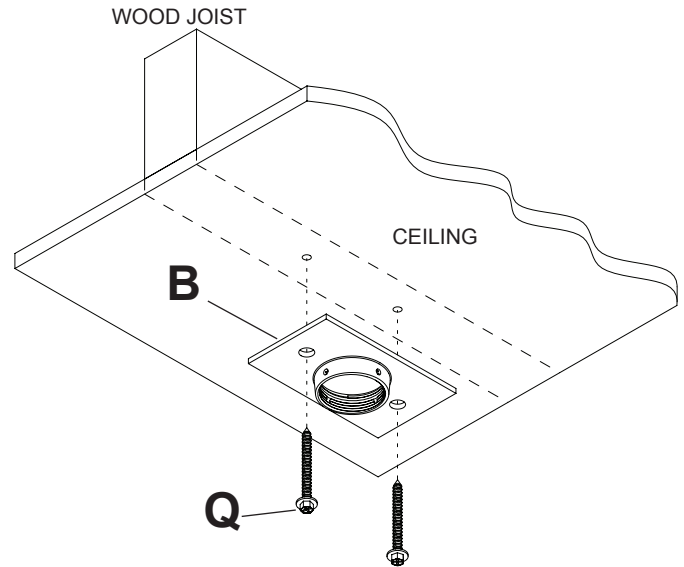

fig. 1.1
**1** Drill two 5/32" (4 mm) dia. holes to a minimum depth of 2.5" (64 mm). Attach ceiling plate (**B**) to ceiling with two #14 x 2.5" wood screws (**Q**) using 3/8" (10 mm) socket wrench as shown in figure 1.1.